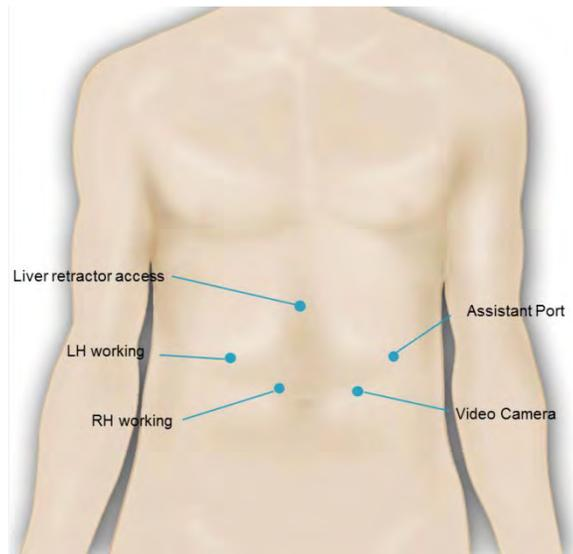

Figure 8 Port Positions
2. Position 4 - 5 laparoscopic ports as shown in Figure 8 (or use a working position that is appropriate). This plan is based on the surgeon working in the lateral right position. If the surgeon prefers to work in the French position, ports should be as for any other laparoscopic lower esophageal intervention. The suggested port positions include: